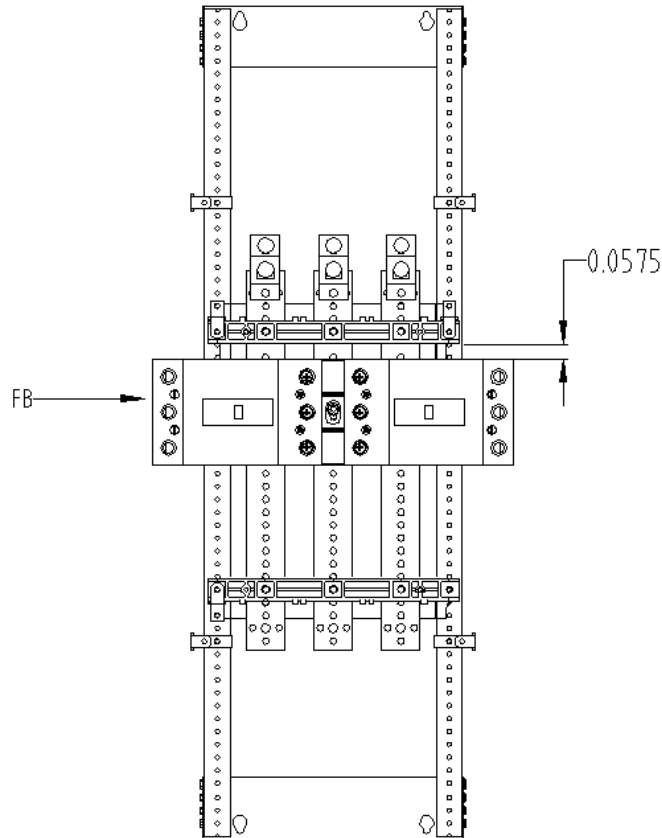

Figure 5. Distance between the Crossbar and FB breaker
13. If FB breaker has to be installed immediate after crossbar as shown in Figure 5 then gap between the breaker and crossbar has to be 0.0575inch.